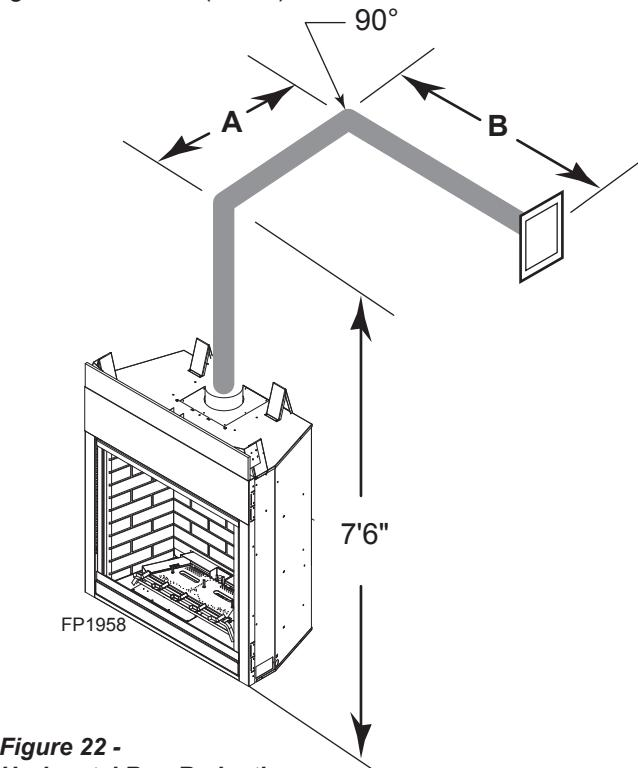
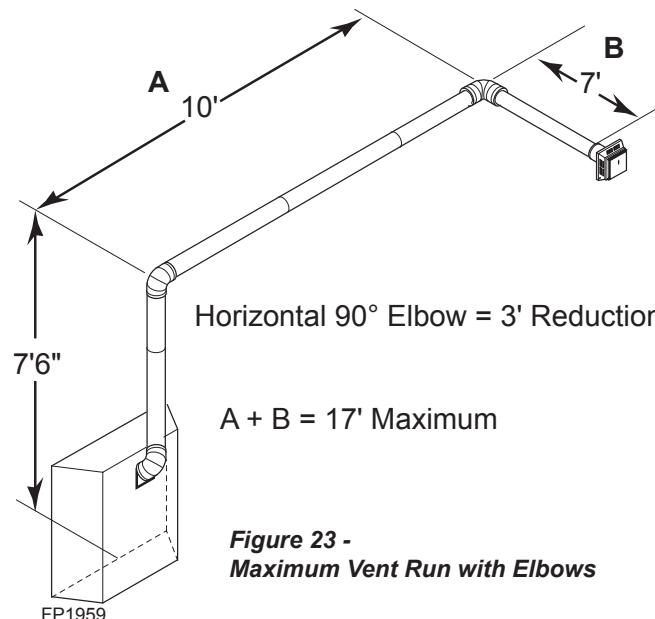

Figure 22 -
Figure 23 -
- If a 90° elbow is used in the horizontal vent run (level height maintained) the horizontal vent length is reduced by 36". *Figure 23*. This does not apply if the 90° elbows are used to increase or redirect a vertical rise. *Figure 22*
In *Figures 22 and 23* dimension A plus B must not be greater than 17' (5.2 m).